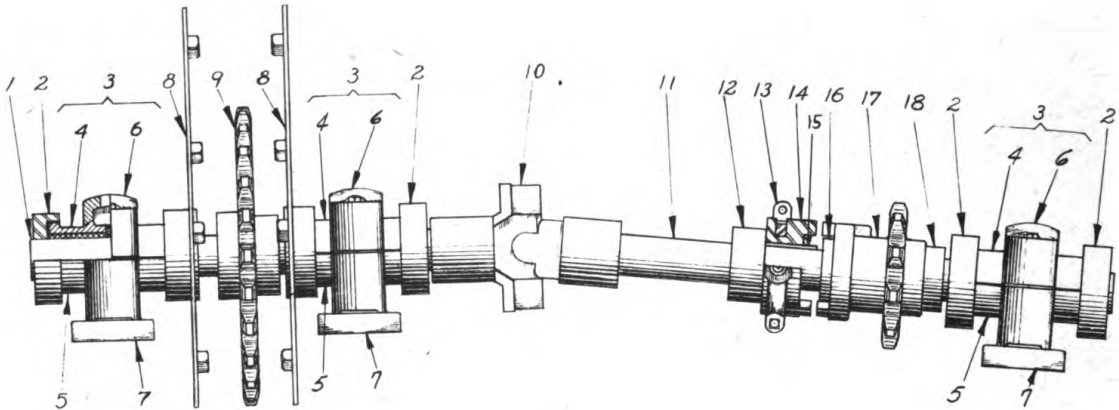

FIGURE 110
The jaw clutch end of shaft is removed for stripping by removing the hub of universal joint (10) Fig. 110 from the end of other half of shaft assembly. In other words the shaft assembly consists of two sections which are interlocked by a universal joint. To remove the jaw clutch end of shaft proceed as follows:
1. Loosen set screws in collar (2) Fig. 110 remove collar.
2. Bearing (3) is loose on shaft.
3. Loosen set screws in collar (2), remove collar.
4. Loosen set screws in collar (18), remove collar.
5. Sprocket (17), is loose on shaft.
6. Loosen set screws in collar (16), remove collar.
7. Jaw Clutch, (14), is loose on shaft, remove jaw clutch and key.
8. Loosen set screws in collar (12), remove collar.
9. Loosen set screws in hub of universal (10), remove universal.
10. Loosen set screws in collar (2), remove collar.
11. Bearing (3), is loose on shaft.